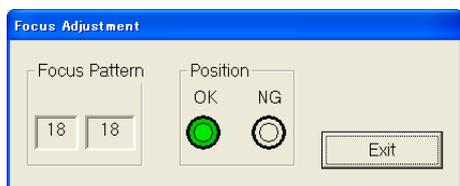

Fig. 4-7-3
- 3) Set the zoom position to Tele end and the focus position to infinity end, then check that the OK (Green) indicator of “Position” lights as shown in Fig. 4-7-3.